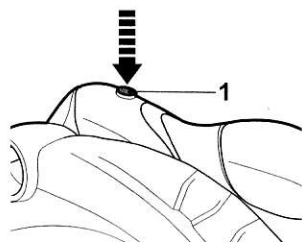

Fig. 8
- > Switch the laser on by pressing the on/off switch (1) (Fig. 8).
- > Switch the laser off by pressing the on/off switch (1) again.